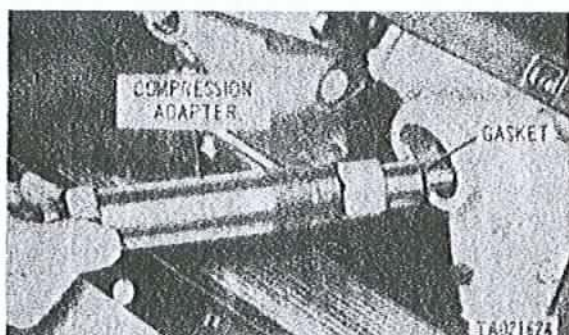
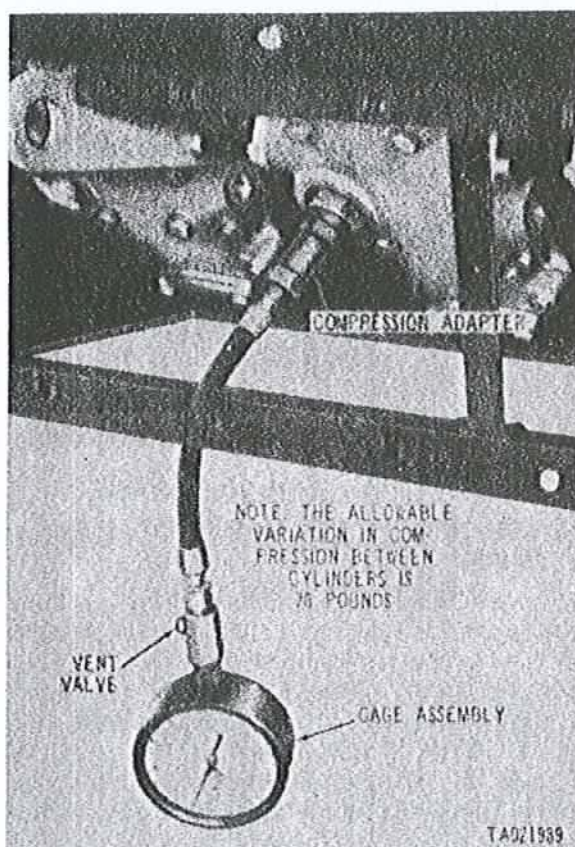

Figure 2-149. Installing or removing compression adapter.
Figure 2-150. Checking cylinder compression.
(1) Position new injector nozzle gasket (fig. 2-149) on end of compression adapter, Part No. 8743025. Apply a light coating of grease on gasket so it adheres to adapter when installed in cylinder.
(2) Install adapter into fuel injector nozzle holder opening and tighten securely using crowfoot attachment, Part No. 12254244.
(3) Install gage assembly, Part No. 10899180 (fig. 2-150) on adapter, Part No. 8743025 and
tighten securely. Crank engine several seconds, or until the compression gage reaches maximum reading. Cylinder compression must be within 330 to 480 psi at engine cranking speed. Depress gage vent valve (fig. 2-150) to release pressure and reset gage to zero after compression reading is taken. Test compression on all cylinders in the same manner.
*e. Compression Variation.* After all 12 cylinders are checked, determine the pressure difference between high and low cylinder reading. This variation should not exceed 70 psi. If compression readings are below the low limit of 330 psi, the engine motoring RPM should be checked to be sure that it is 140 to 180 RPM. Compression should be checked again to confirm the previous readings before submitting an engine for overhaul. Remove compression gage from adapter. Remove adapter and gasket (fig. 2-149). Discard gasket.